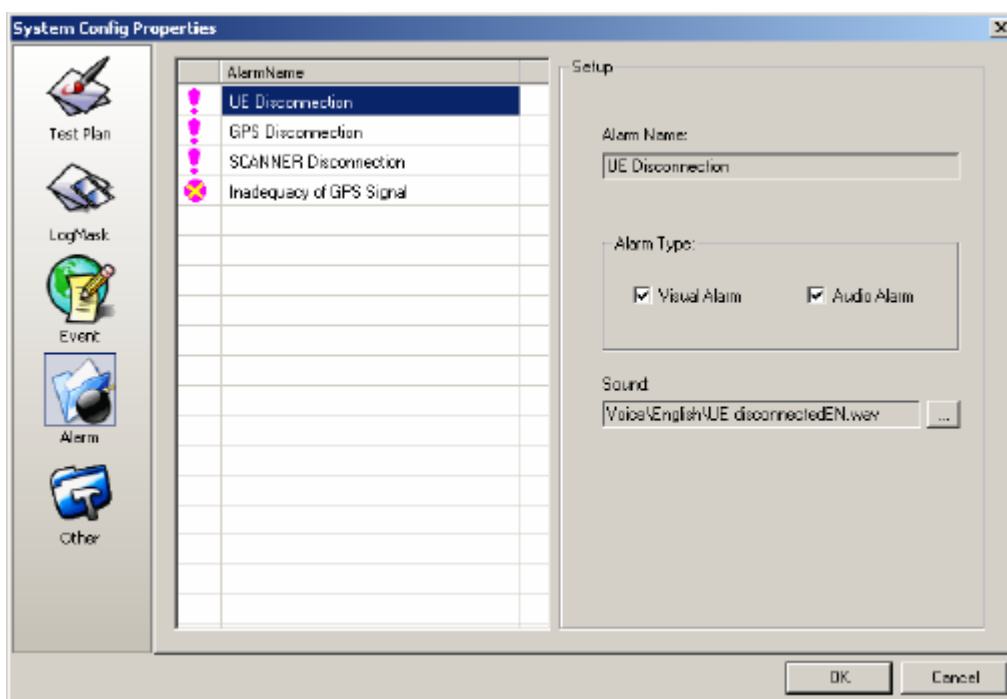

Figure 6-30 Alarm dialog box
- 1) Click the alarm icon on the left of the **System Config Properties** window. The **Alarm** dialog box is displayed, as shown in Figure 6-30.